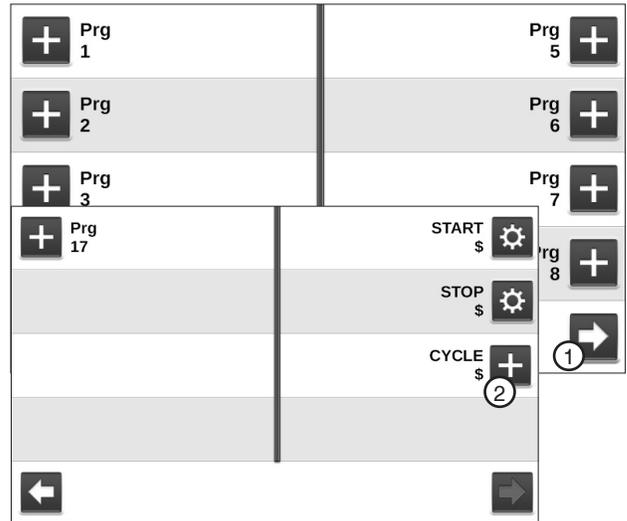

Figure 157-1 Step Programs Screen
1. Push **Menu**, **Programs** and **Step Programs** to view the Step Programs screen. Refer to Figure 157-1.